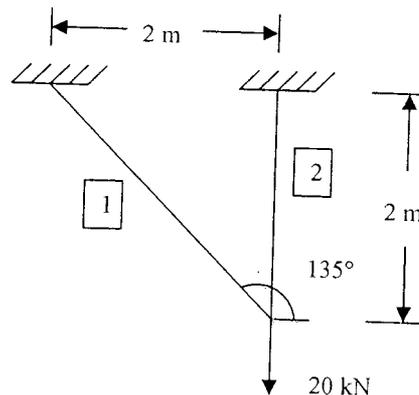

Fig. 5
13. (a) Determine the displacement and internal forces for the truss shown in fig. 5.